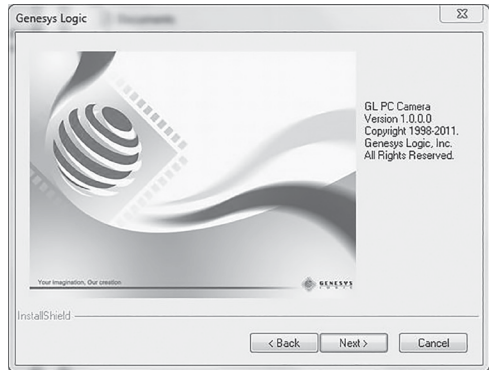

Figure 1. Software installation
2. Open the setup.exe file and proceed through the software installation (**Figure 1**). Click through each screen to finish installation.